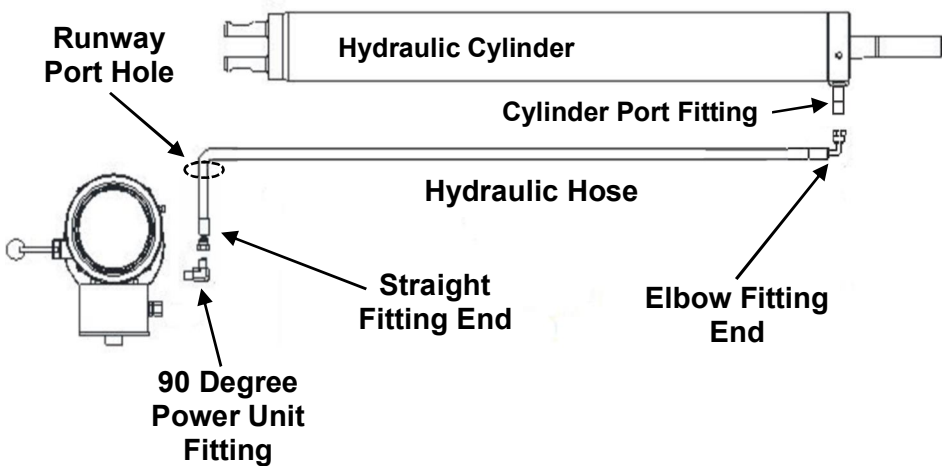

Fig. 23
- 1) Connect Hydraulic Hose with elbow fitting end to the Cylinder Port Fitting. Route Hydraulic Hose through round metal rings on the underside of the Power Side Runway, as shown in Fig. 23.
- 3) With the Hydraulic Hose connected to the Cylinder Port Fitting and routed through the metal rings, now route the straight fitting end of Hydraulic Hose through the runway port hole with Corrugated Flex Tubing already attached. Gently pull hose slack through the Flex Tubing, Figs 23 & 24.